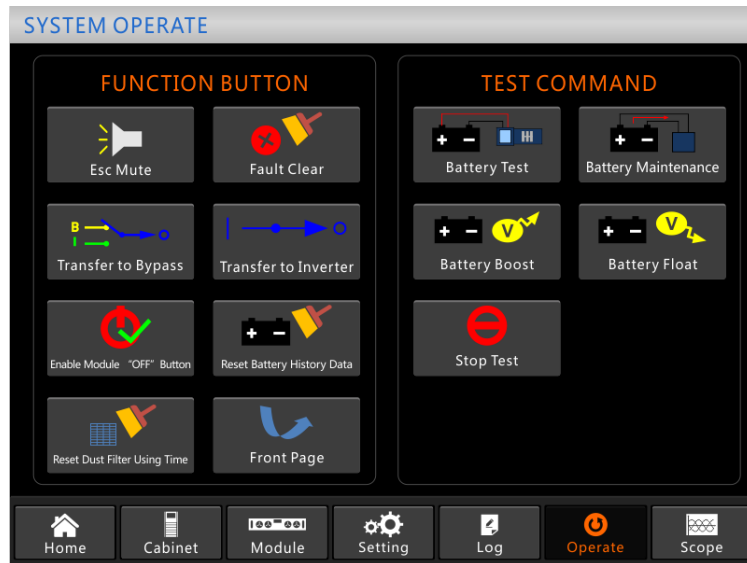

Figure 4-4 Battery maintenance
- 1) Manual discharging test. Enter the “Operate” menu, as is shown in Figure 4-4 and touch the